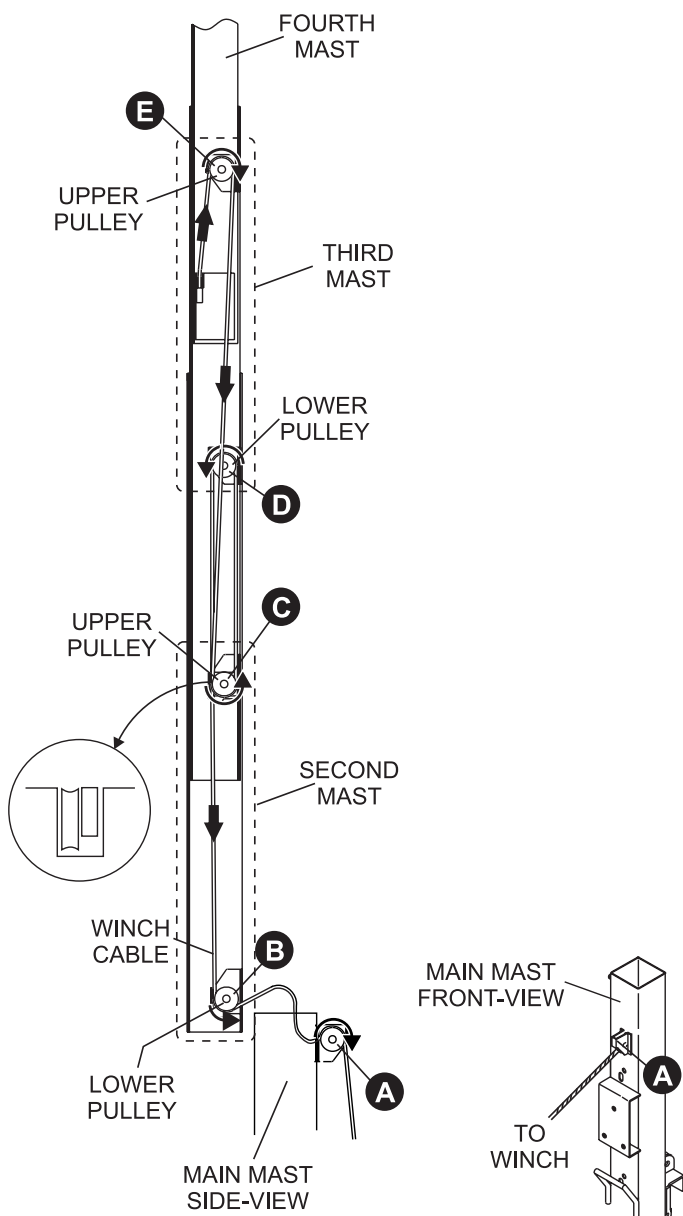

Figure 37. Attaching the Winch Cable
1. Route (pass) a new winch cable through the main mast pulley (Figure 37).